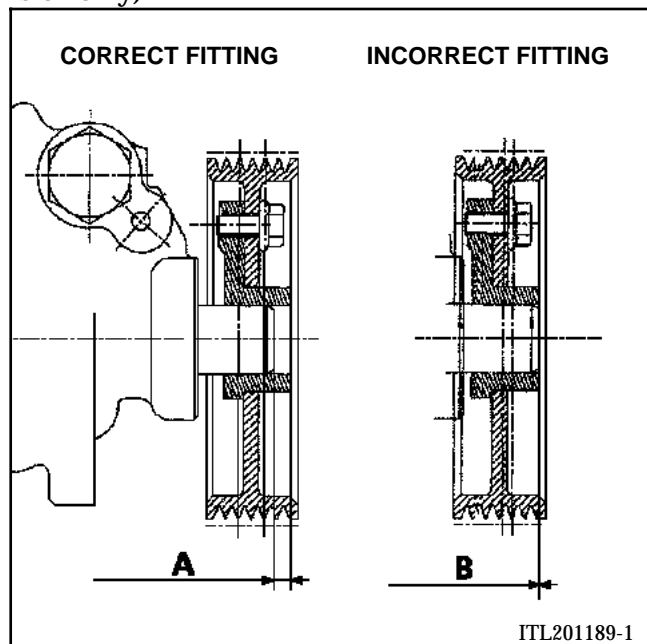

Fig. 1
- Fit a spacer between the hub and the PAS pulley (alignment to be checked **before** work is carried out). (**Fig. 1**)
- Fit a spacer between the hub and the PAS pulley (alignment to be checked **before** work is carried out). (**Figure 1**)